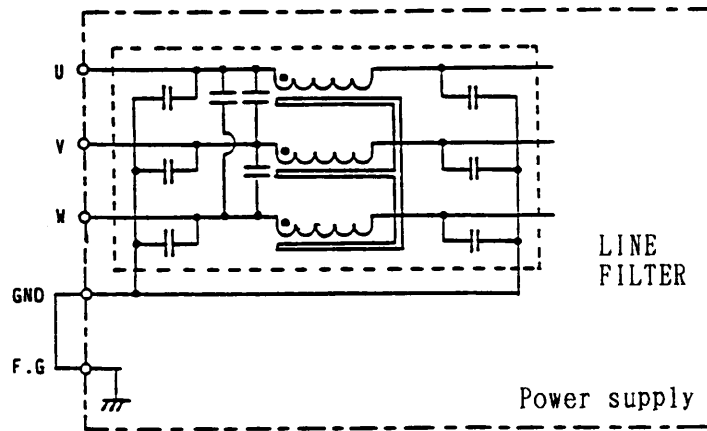

Figure 2-2
- The F.G is connected to the chassis of the power supply. The GND is connected to the ground line of the built-in line filter as shown in Figure 2-2.